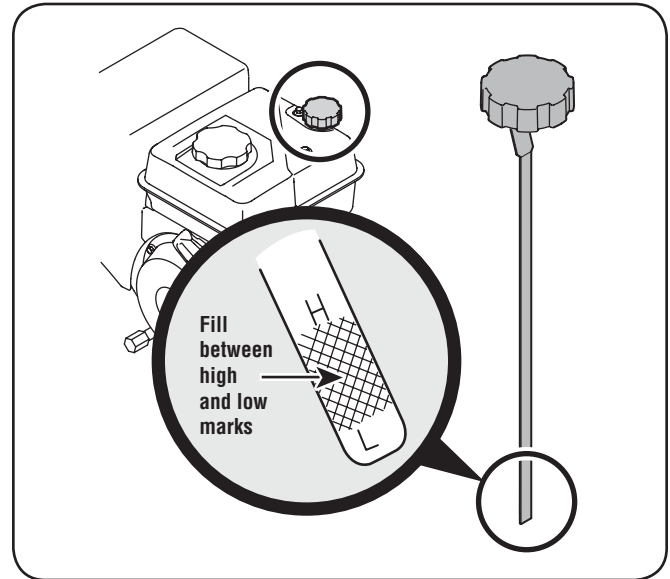

Figure 3-13
1. Remove the oil filler cap/dipstick and wipe the dipstick clean. See Fig. 3-13.
3. Remove the oil filler cap/dipstick. If the level is low, slowly add oil until the oil level registers between high (H) and low (L), Fig. 3-13. Refer to the Engine Maintenance section for the correct oil viscosity and engine oil capacity.